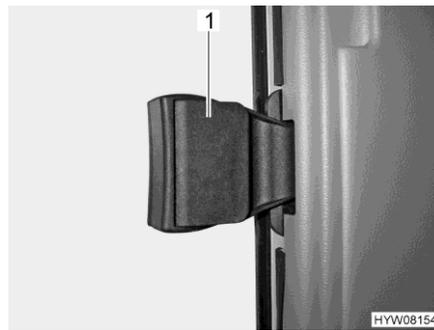

Fig. 59 Front passenger's window
- Unfold the handle (Fig. 59,1).